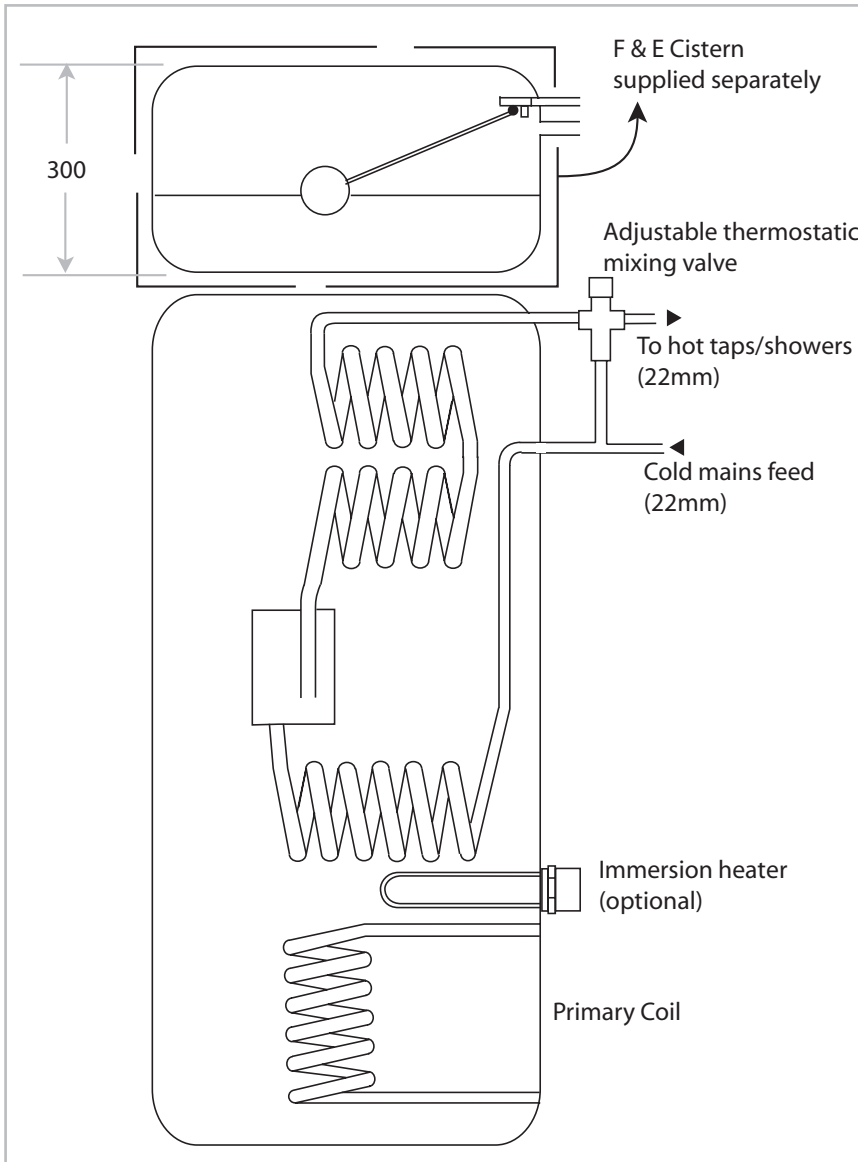

Figure 2 Torrent Indirect
2. **Torrent Indirect** - For use with gas or oil boilers. (Figure 2)
TORRENT INDIRECT (Figure 2)
TABLE 2 TORRENT INDIRECT (Figure 2)